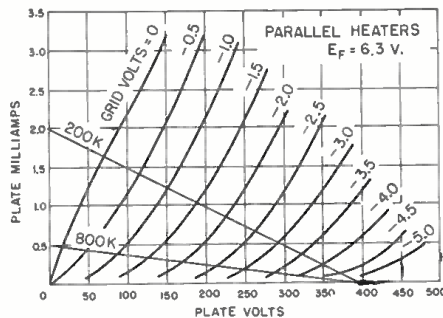

Fig. 4: Plate characteristics for the 12AX7
Consider a 12AX7 double triode shown in Fig. 3 and refer to the plate characteristic curves in Fig. 4.
Due to linearity and dissipation considerations choose $R_1 = 200K$. Then pick R_2 as much larger than R_1 as is possible consistent with requirements and draw load lines for R_1 and R_2 neglecting R_k . In this case let $R_2 = 800K$. To insure maximum balanced plate-to-plate voltage swing, let the DC operating plate voltage of each tube be 210 volts. From Fig. 4 it is seen that this will require the grid-to-cathode voltage of T-1 to be -1.75 volts and that of T-2 to be -2.5 volts. From the tube manual, the amplification factor $\mu = 95$ and dynamic plate resistance $r_p = 100K$ for the operating points chosen. Substituting in equation (15):
To determine the dynamic operation with regard to linearity and gain, the plate-to-ground voltages of T-1 and T-2 will be graphically determined when a square wave signal of ± 2 volts is impressed at the grid of T-1. The method involves a trial and error process which converges very rapidly. It consists of assuming, as a first approximation, that slightly less than one half of the signal voltage appears across R_k (see equation 18) and recording the total voltage which then exists across R_k . Next refer to the tube characteristic curves of Fig. 4, note the plate voltage of each tube and from this compute the current in each tube. The sum of these currents produces a voltage drop in R_k which should equal the voltage recorded at the beginning of the trial. If it does not, make another guess and repeat the process. Two trials will usually suffice.